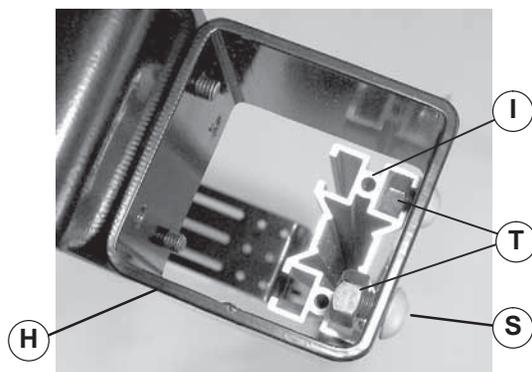

Figure 9
13. Align two hex nuts (Figure 9, item T) on each leg support bracket (H) to t-slots at top, outside of stand legs (I). Slide leg support brackets down stand legs until top of stand/conveyor mounting bracket (G) is approximately the same height as the bottom of conveyor. Tighten four button head screws (S) just enough to keep leg support brackets in position.